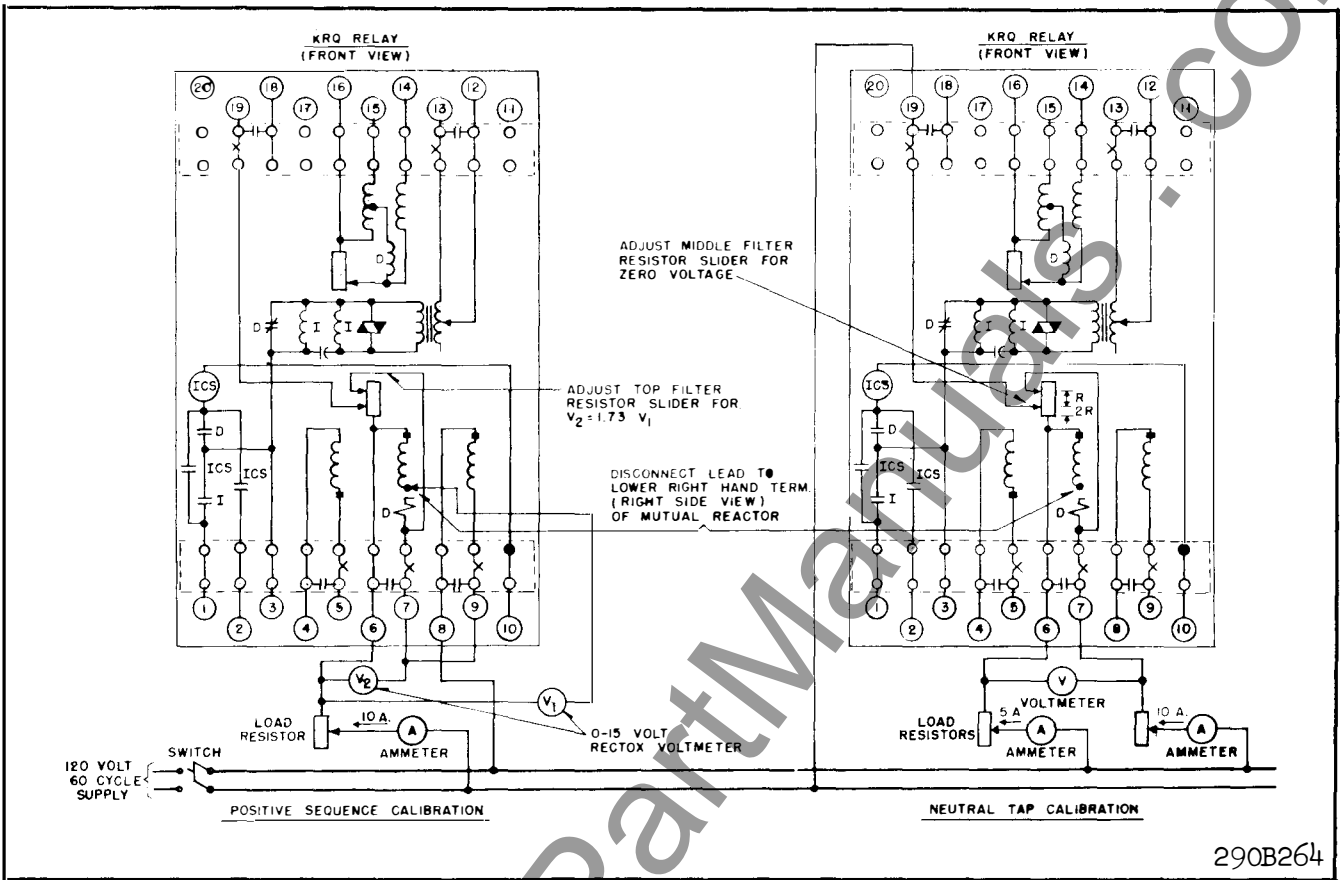

Fig. 8. Test Diagram for Calibration of Negative Sequence Current Filter in KRQ Relay.
5. Refer to fig. 8. Do not apply voltage. Pass 5 Amps. in terminal 6 and out terminal 8. There should be no trip. Reverse the current: no trip.
Refer to fig. 8 for positive sequence calibration.
Refer to fig. 8 for neutral tap calibration.